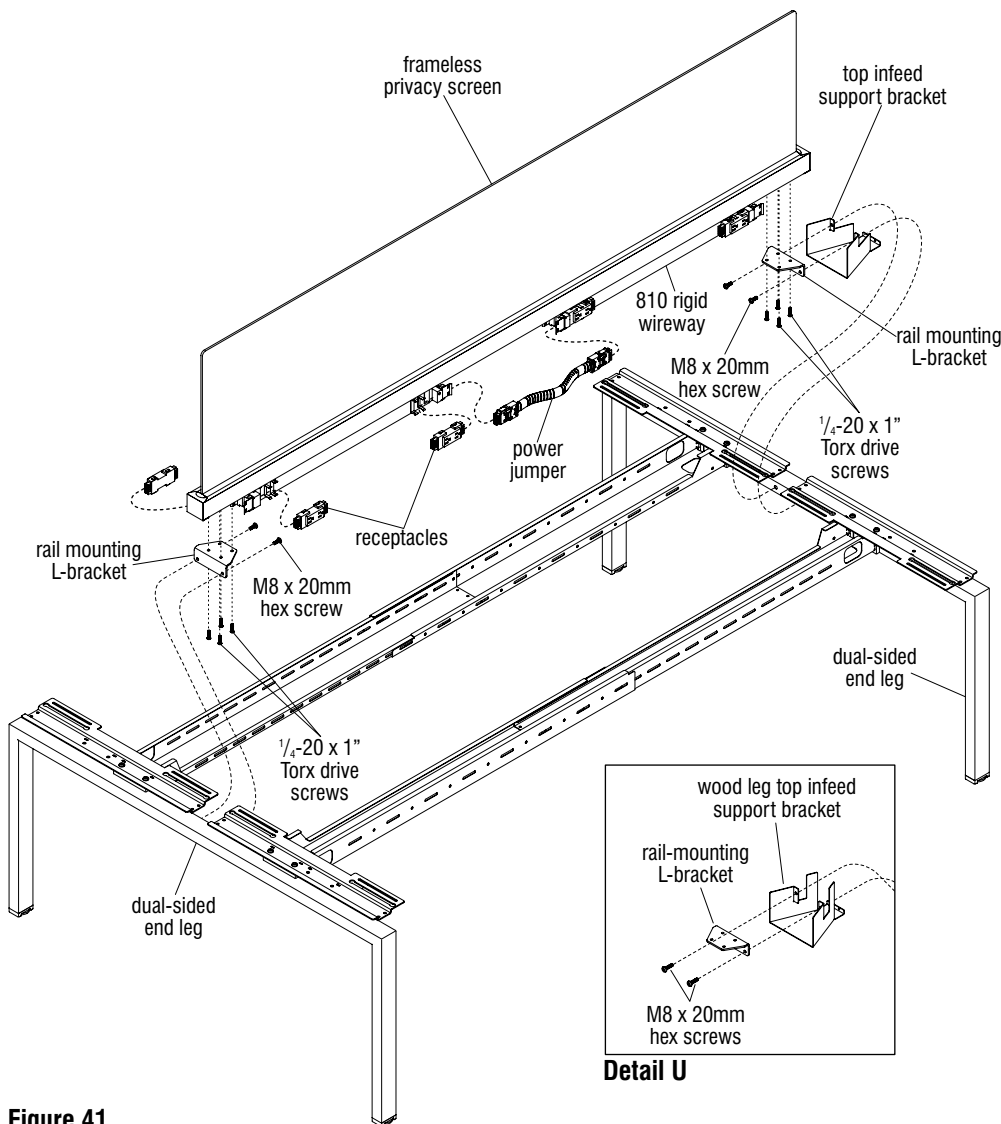

Figure 41
**Important:** At locations where a top power infeed is specified, a “top infeed support bracket” must attach to the inside of a support frame at the power infeed location before a “rail mounting L-bracket” can be installed (Figure 41 & Detail U).
specified, install that under the rail mounting L-bracket at this time (Figure 41).
3. Set the frameless privacy screen assembly onto the installed rail mounting L-brackets. For stand-alone frame assemblies, center the frameless screen exactly on the frames with equal overhang at each side. If the frameless privacy screen is to install to a dual-sided intermediate leg on either end, the end of that frameless screen will be 1/16" short of exact center on the intermediate leg (Figure 41).
4. With frameless privacy screen correctly positioned over rail mounting L-brackets, insert four 1/4"-20 x 1" Torx screws through each L-bracket and insert into the threaded channels in the rail under the frameless screen and tighten to secure (Figure 41).
5. If specified, the frameless privacy screen may contain one or two 810 rigid wireways attached to the rail, depending on length of the frameless screen. If two rigid wireways are attached, plug the appropriate power jumper in between the wireways. Locate and plug all duplex receptacles into both sides of the 810 rigid wireways, taking care to follow the space-planning layout for correct receptacle number/placement (Figure 41).